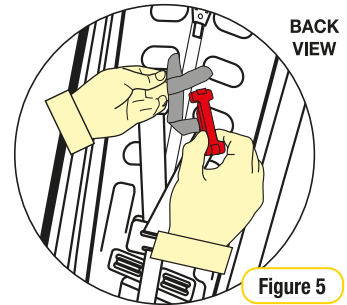

Figure 5
Step 5: Remove the sash guide by threading the sash guide through the webbing loop (refer Figure 5). Pull the sash guide and strap through to the front of the restraint.